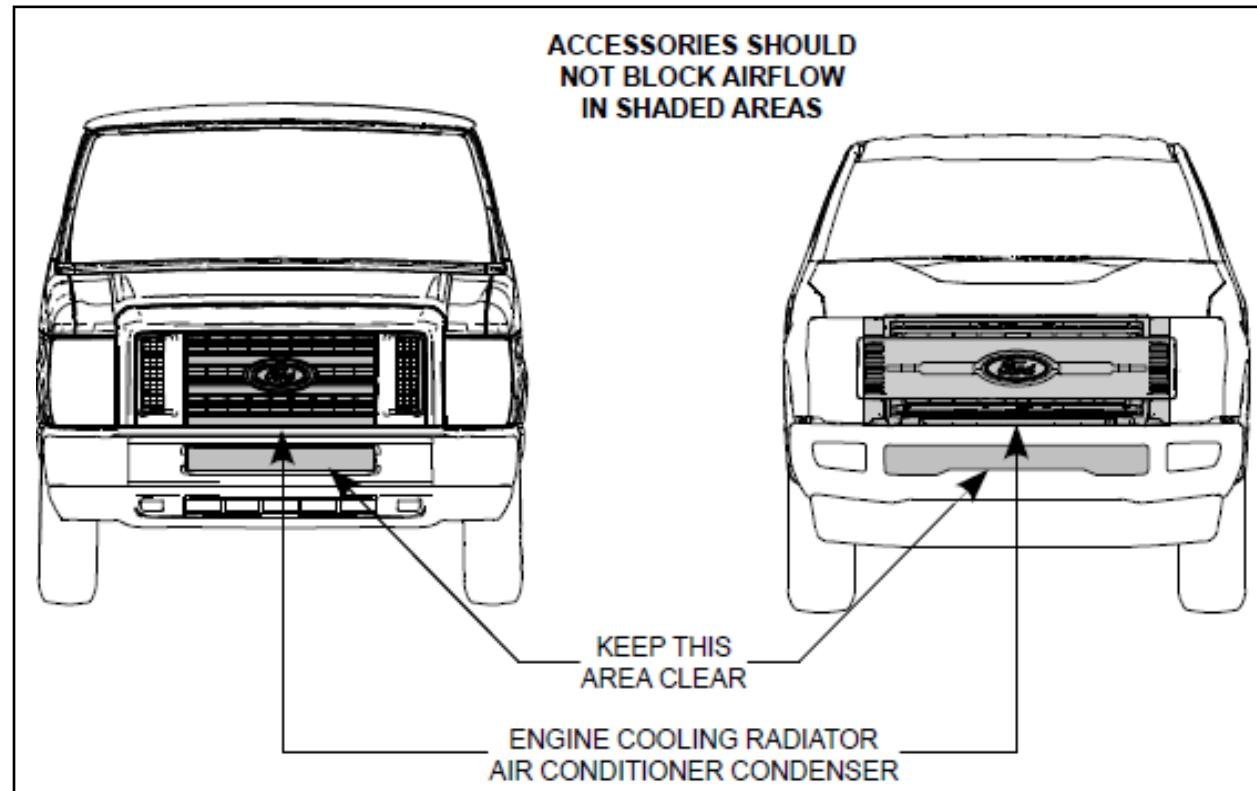

Figure 16 – Examples of Areas Critical to Cooling
- Equipment such as lights, sirens, spare tires or any other accessories should not be installed in the grille area forward of the radiator or engine air inlet. Doing so restricts airflow through the radiator and engine compartments. See Figure 16 for illustrated examples.